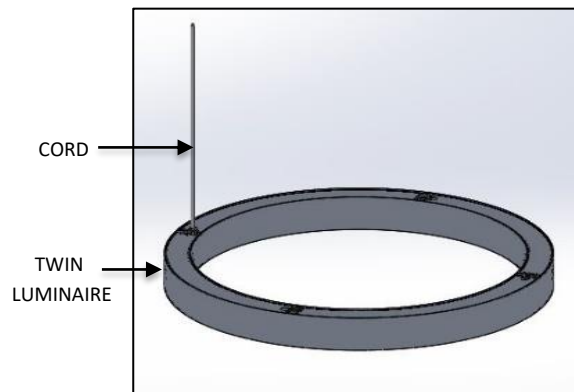

FIG. 2 - TWIN LUMINAIRE (PRE-ASSEMBLED)
1. TWIN LUMINAIRE with CORD attached. (Pre-assembled as shown in FIG. 2)